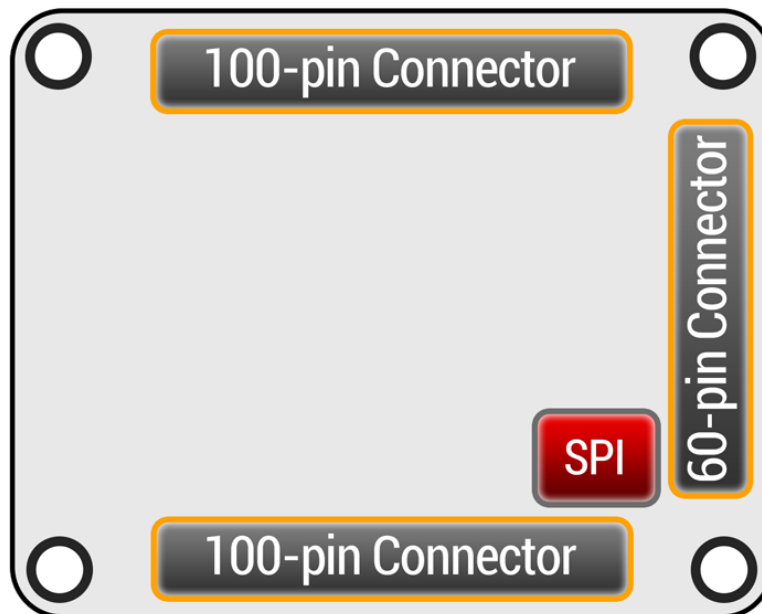

Figure 3 - Placement diagram of solder side
- Figure 3 - Placement diagram of solder side 9